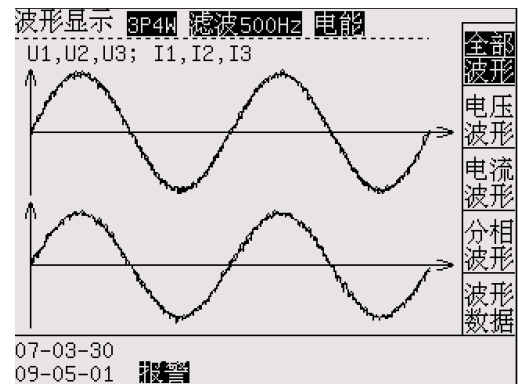

Figure 6-1 Waveform display
3.1 Waveform display refers to screen. (Figure 6-1)